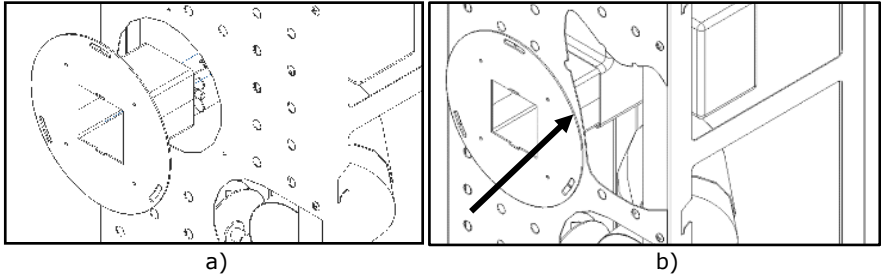

Figure 61 – Fitting the air guide into the stove
h) Fit the ductable air guide kit into the rear panel of the unit, making sure you insert it into the internal part of the ventilator's air outlet duct (Figure 61-b).